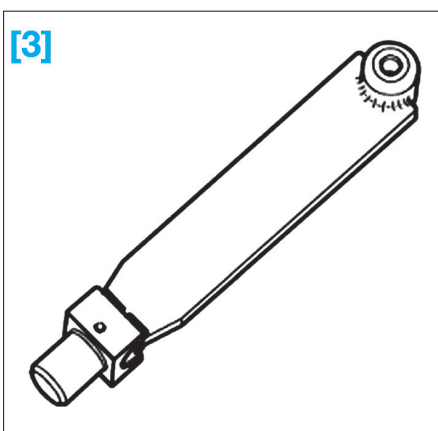

FIG. 6
- [3]. Support de moyeu Ref. T10149 (Fig.6).